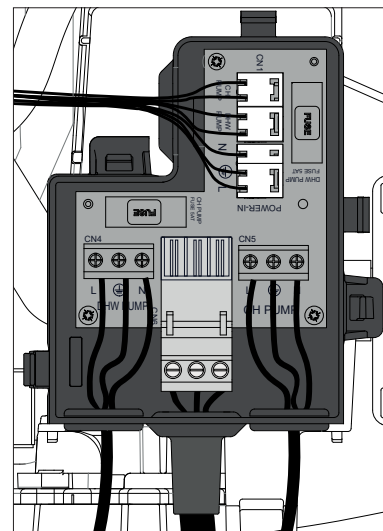

Figure 47 - 120V Connections for DHW and CH Circulators
6. Connect the cable on the connector CN5 (CH pump) and CN4 (DHW pump). See Figure 47 and Electrical Wiring Diagram, Figure 52.